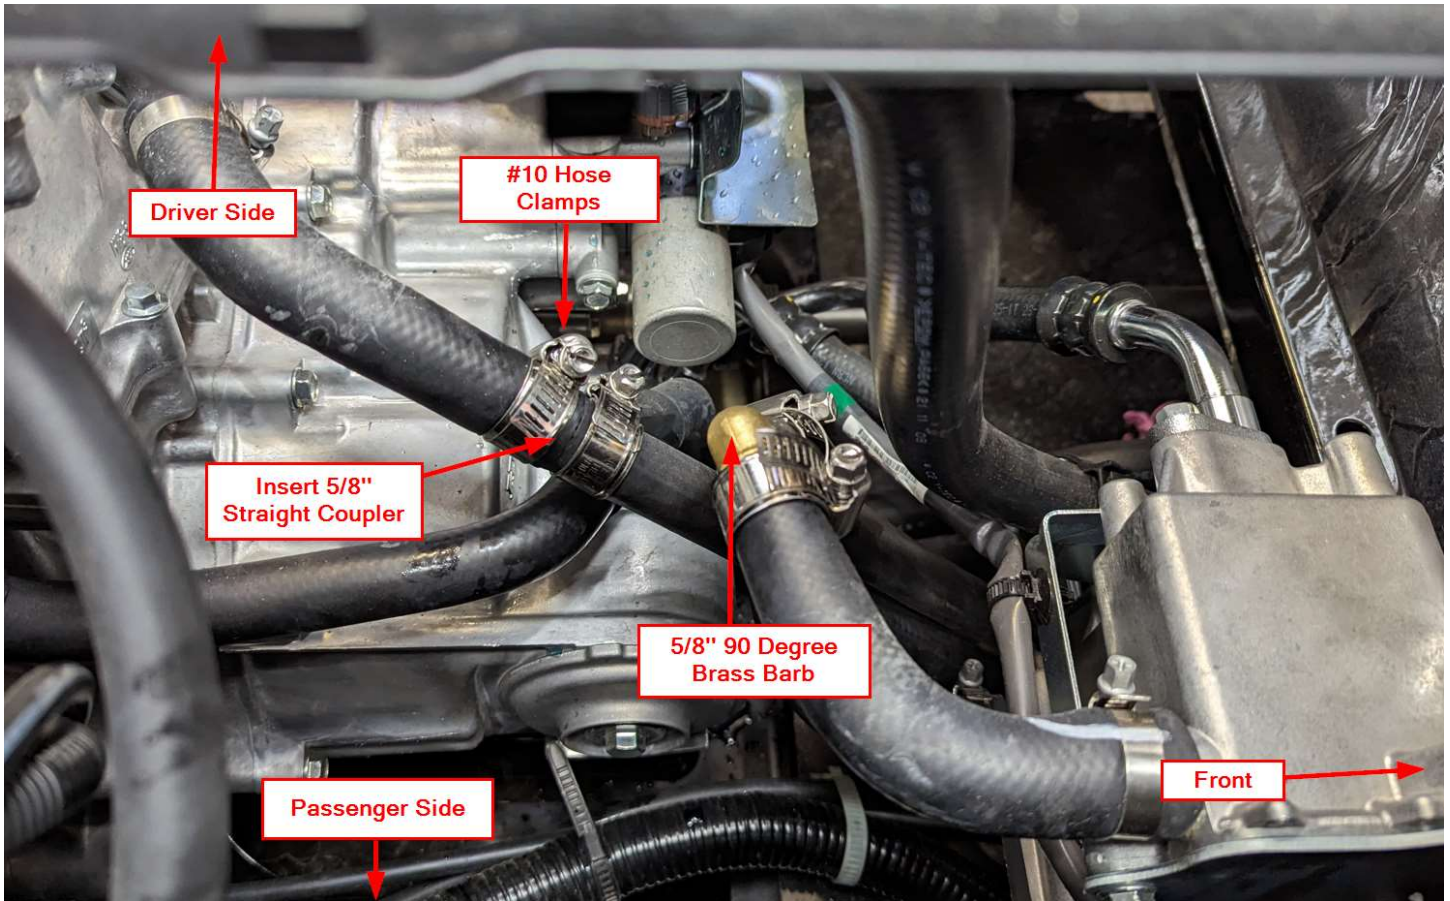

Figure 16
- d. Locate the 5/8" Straight Coupler. Insert the 5/8" Straight Coupler into the engine side of the Oil Cooler Hose as shown in Figure 16. Secure with a #10 Hose Clamp.